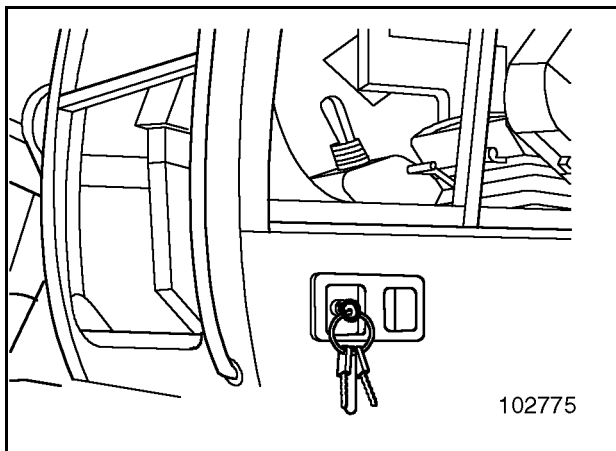

Fig. 2
- Unlock the door with the key (Fig. 2).